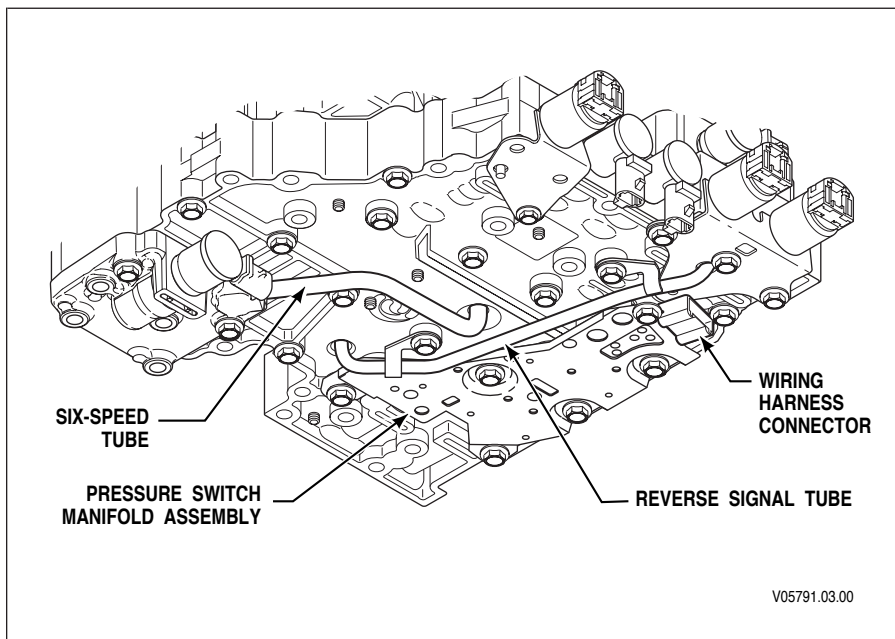

Figure 6–11. Pressure Switch Manifold Assembly Replacement
3. Remove the oil pan and oil pan gasket. Inspect the magnet in the oil pan (refer to Figure 6–6). Be sure that excessive or large metallic particles are not present. These conditions would indicate that an overhaul may be required.